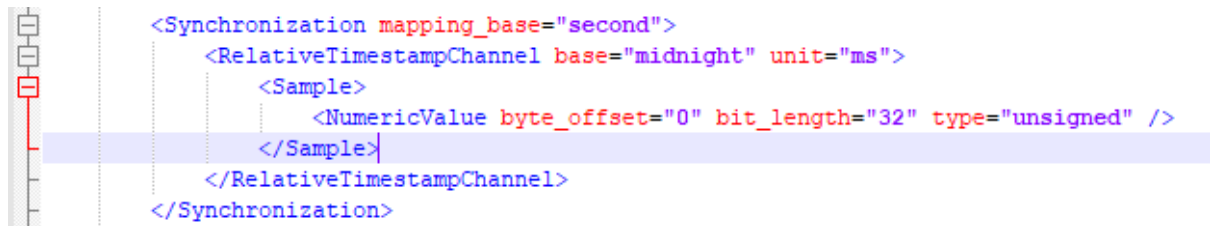

Figure 3-1: Data Synchronization
- More details can be found in the xml-file (see the Synchronization extract in Figure 3-1)